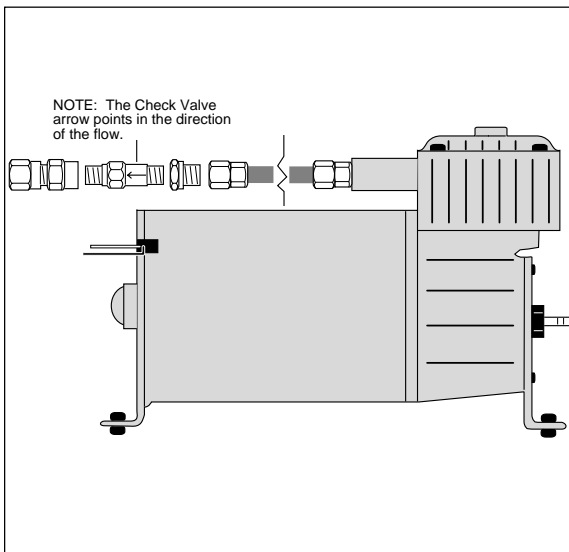

Figure 4
7. Install the provided reducer bushing, check valve, and fitting (sealer provided) into the pressure port side of the leader hose. The arrow on the check valve points in the direction of the flow (Figure 4).
5. To deflate the air springs, depress the button below the on/off switch (Figure 4).